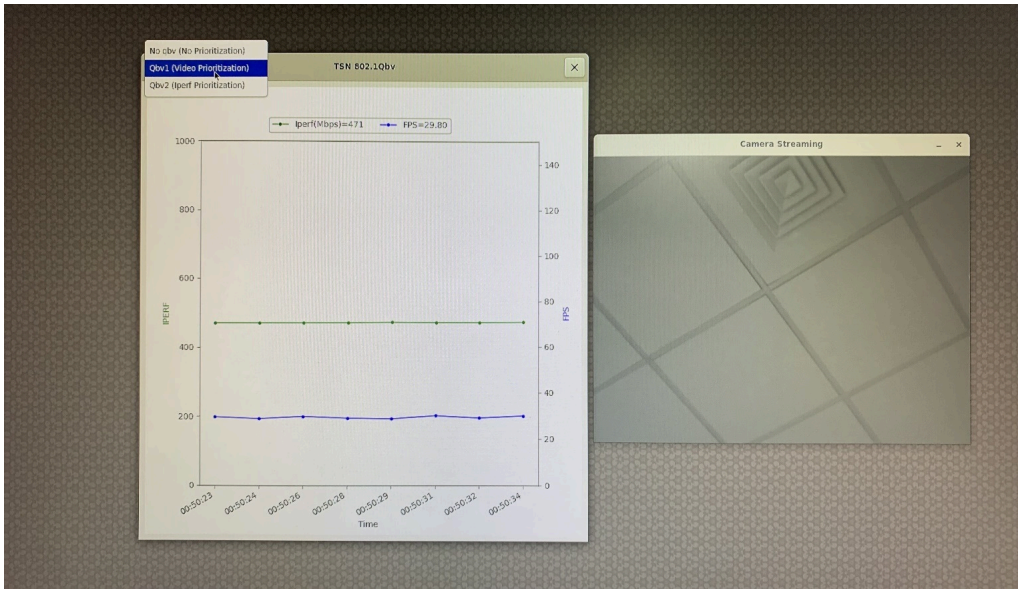

Figure 56. Qbv1 graph window and camera window
- The iperf limits with throughput of 450 Mbit/s to 500 Mbit/s and camera FPS values must be 25 FPS to 30 FPS, as shown in Figure 56.